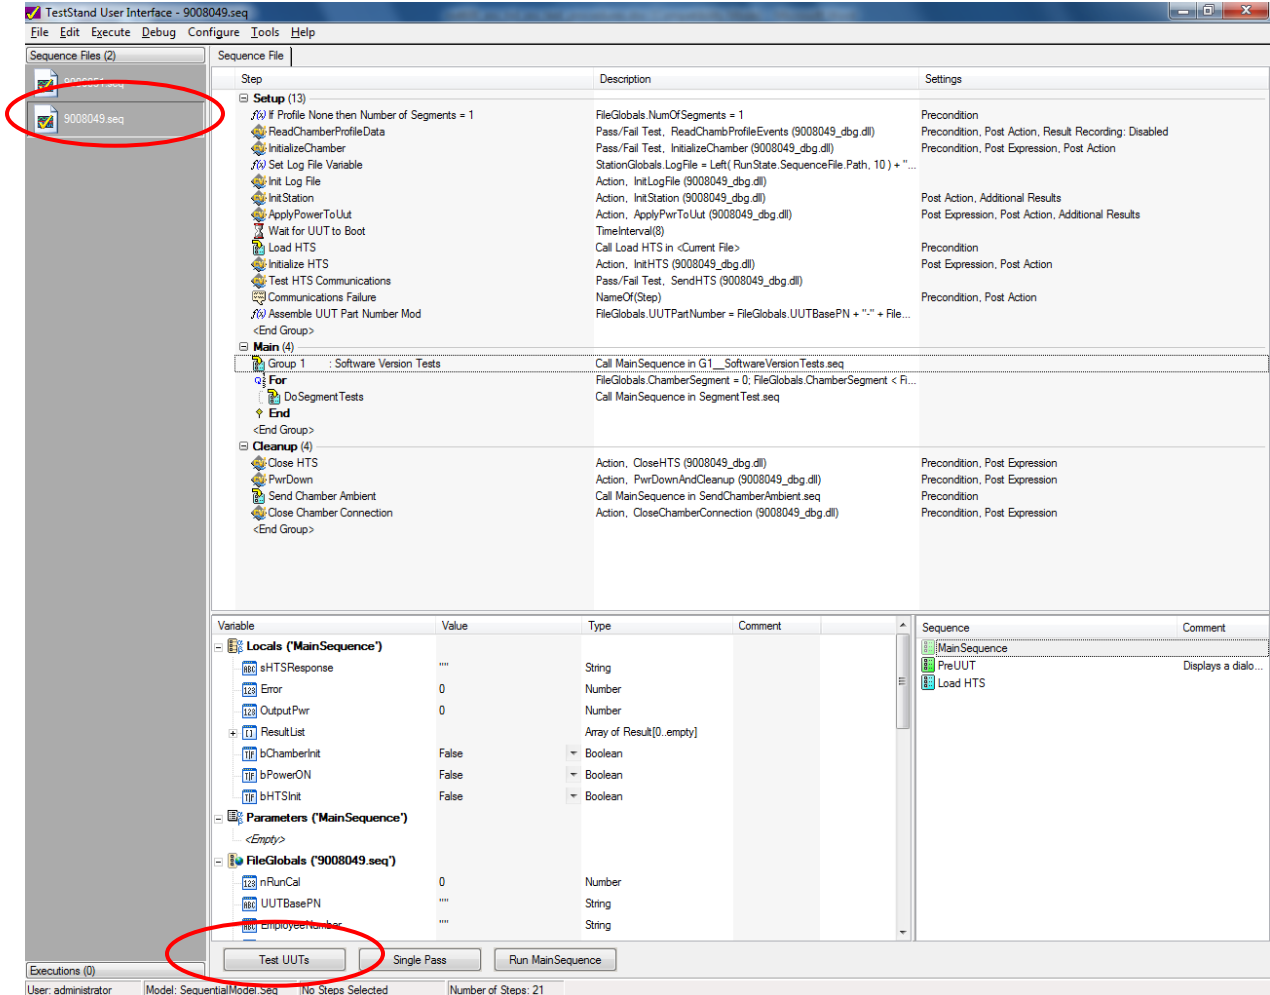
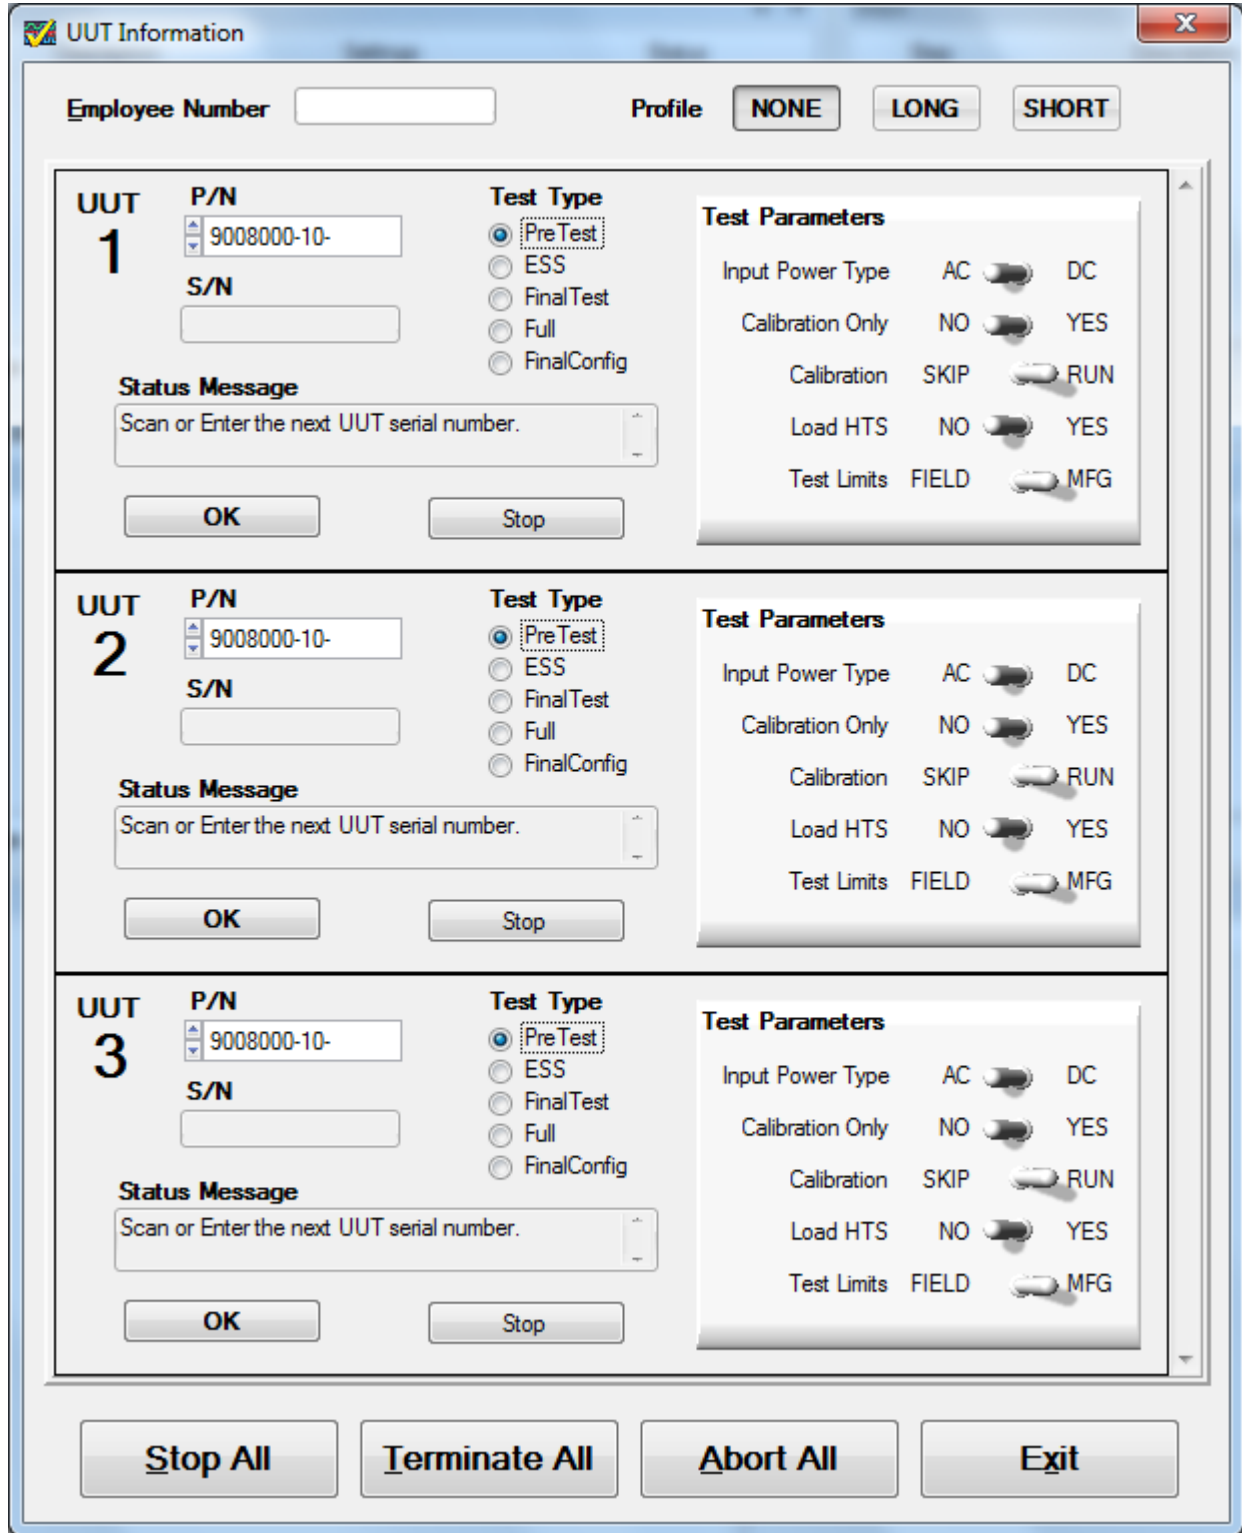

Figure 5-3: TestStand User Interface
Figure 5-4: ESS\EIT UUT Test Information Dialog
- After Login, the TestStand User Interface screen is displayed, see Figure 5-3. Select the “9008049.seq” test sequence and then click “Test UUTs”. This will bring up the Test Information dialog box, see Figure 5-4.
- The Test Information dialog box allows the user to enter UUT common information for up to three LRUs, like Part Number and HW Mod Status, as well as select various options, such as Test Type, Profile, and Test Parameters utilized while running the ESS tests. See Figure 5-4.
- Step 4. After Login, the TestStand User Interface screen is displayed, see Figure 5-3. Select the "9008049.seq" test sequence and then click "Test UUTs". This will bring up the UUT Information dialog box, see Figure 5-4.
- Step 4. After Login, the TestStand User Interface screen is displayed, see Figure 5-3. Select the “9008049.seq” test sequence and then click “Test UUTs”. This will bring up the UUT Information dialog box, see Figure 5-4.